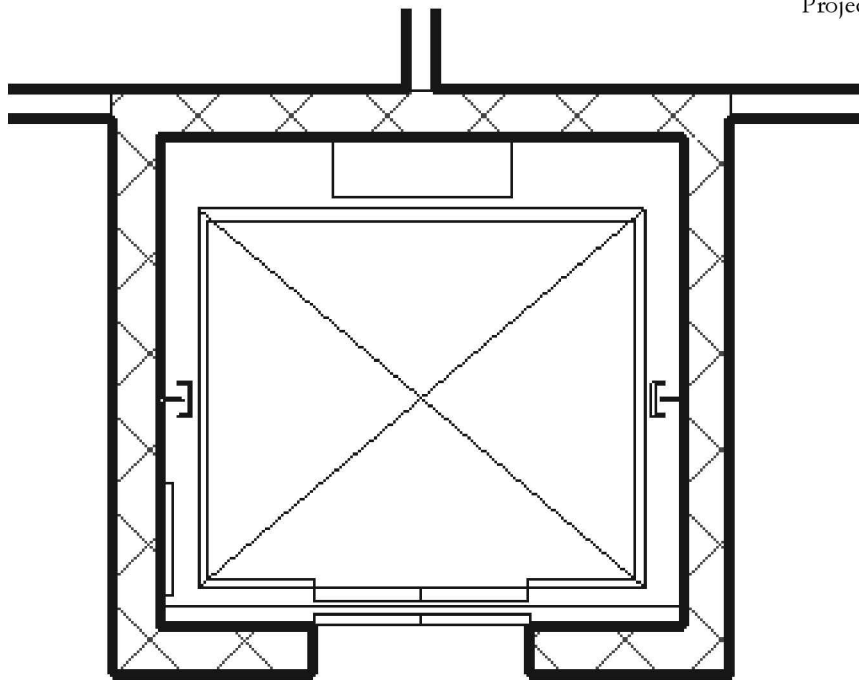

FIGURE 3-4.10 Elevator door added to plan
19. Move your cursor within the elevator shaft and adjust it until the elevator “snaps” in place, then click (Figure 3-4.10).
23. Place the elevator door at the center of the wall, aligned with the elevator door on the cab (Figure 3-4.10).